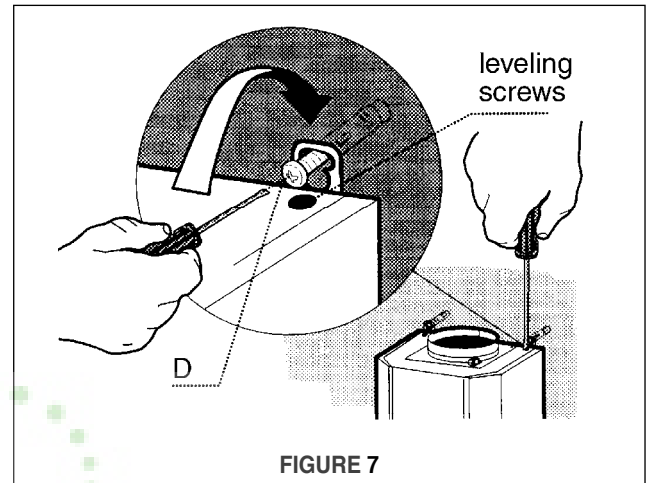

FIGURE 7
2. Before mounting the CANOPY SECTION, tighten the two leveling screws located near the CANOPY SECTION mounting points as indicated in FIGURE 7.
3. Hook the body on to the MOUNTING SCREWS (D in FIGURE 7) and fully tighten the MOUNTING SCREWS.